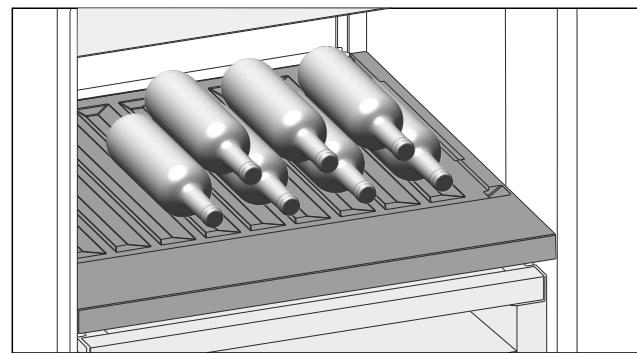

Fig. 140
- ▶ Place bottles in the back row with their bases against the back wall. (see Fig. 140)